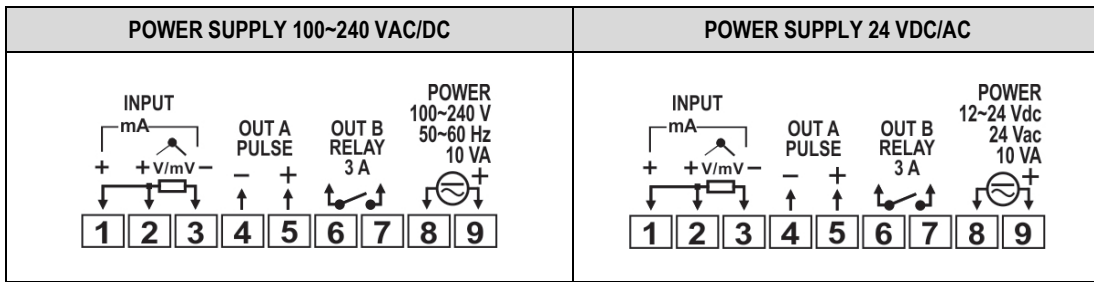

Figure 11 – Electrical connections labels
- **50 mV, 5 V, and 10 V:** Figure 11 shows the connection mode for 0-50 mV, 5 V, and 10 V.